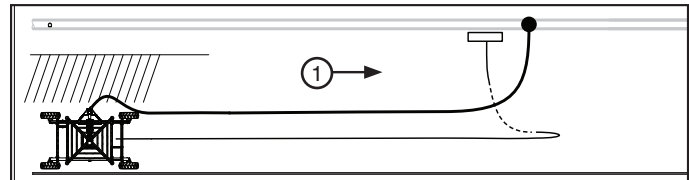

Figure 53-2 1. Direction of Travel
- (a) As the cart moves, the side inlet begins to pivot. See figure 53-2.